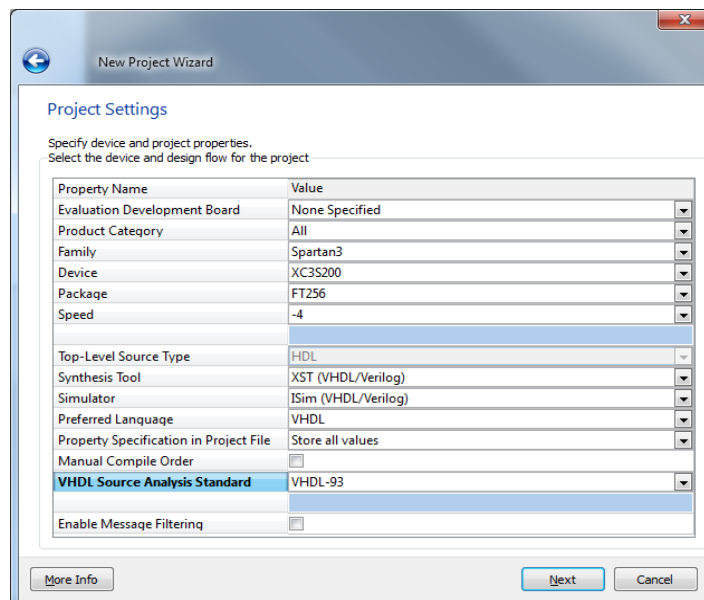

Figure 1.
6. Fill in the properties show in Figure1.